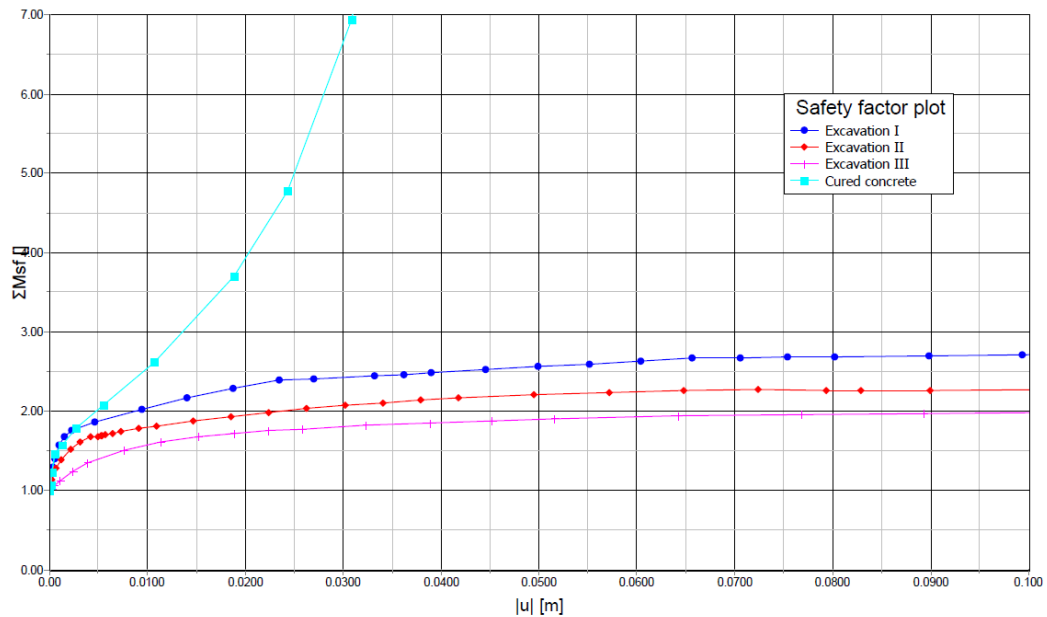

Figure 4-5: ΣMsf (safety factor) as a function of the total displacement
The stability of the excavation can be evaluated from the calculated safety factor after each excavation stage. Use the Curves program to plot ΣMsf (the safety factor) as a function of the displacements $|u|$ (see Figure 4-5 \(p. 79\)). In Phase 3, the stability is the lowest. However, ΣMsf remains greater than 1 and so collapse would not be expected.
4. For the y-axis, select **Project** and then select **Multiplier > ΣMsf** . The Safety phases are considered in the chart. As a result, the curve of Figure 4-5 \(p. 79\) appears.